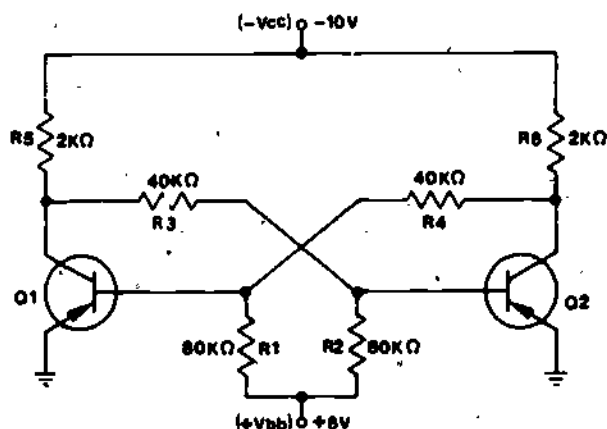

Figure 2
4. In order to explain why one transistor must be cut-off when the other transistor is saturated, let's assign typical values to the components and voltages in a flip-flop. Temporarily ignore the input capacitors and capacitors C3 and C4. The simplified typical circuit is shown in Figure 2.